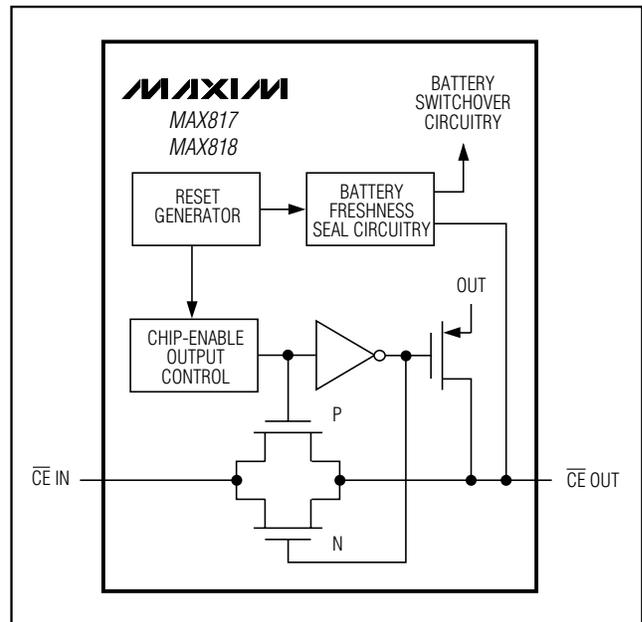

Figure 5. Chip-Enable Transmission Gate
Internal gating of the chip-enable (CE) signal prevents erroneous data from corrupting CMOS RAM in the event of an undervoltage condition. The MAX818 uses a series transmission gate from $\overline{CE IN}$ to $\overline{CE OUT}$ (Figure 5). During normal operation (reset not asserted), the CE transmission gate is enabled and passes all CE transitions. When reset is asserted, this path becomes disabled, preventing erroneous data from corrupting the CMOS RAM. The short CE propagation delay from $\overline{CE IN}$ to $\overline{CE OUT}$ enables the MAX818 to be used with most μP s. If $\overline{CE IN}$ is low when reset asserts, $\overline{CE OUT}$ remains low for typically 15 μs to permit the current write cycle to complete.
When the CE transmission gate is enabled, the impedance of $\overline{\text{CE}} \text{ OUT}$ is equivalent to a 40Ω resistor in series with the source driving $\overline{\text{CE}} \text{ IN}$. In the disabled mode, the transmission gate is off and an active pull-up connects $\overline{\text{CE}} \text{ OUT}$ to OUT (Figure 5). This pull-up turns off when the transmission gate is enabled.